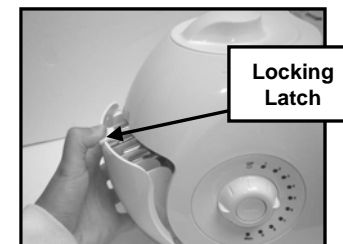

Fig. 11
1. Press down and pull back on the locking latch of the storage compartment. (Fig. 11)